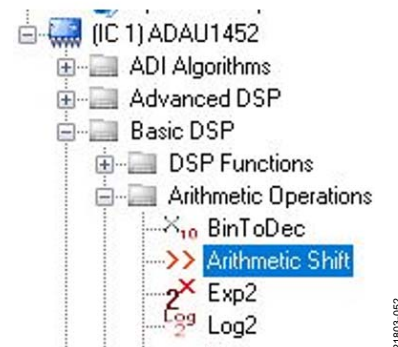

Figure 53. Adding an **Arithmetic Shift** Component
4. Add a **Shift1** block by clicking the **Arithmetic Shift** component from the **Basic DSP > Arithmetic Operations** folder (see Figure 53), and then dragging it to the project space.